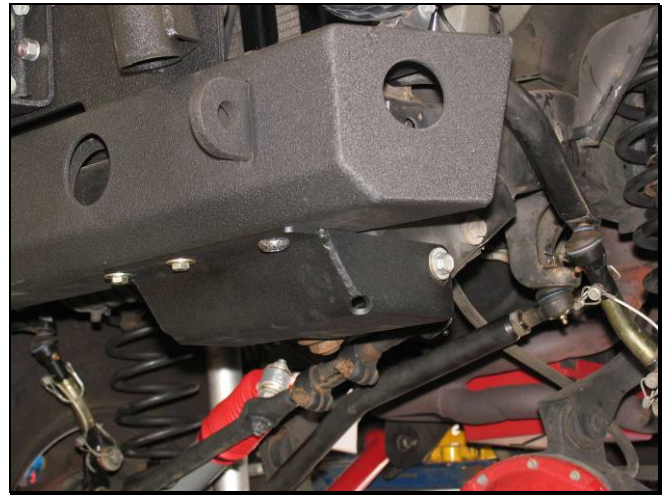

Figure 2
- 4)  Using the 3/8" hardware provided, affix the skid plate to the bumper through the 2 inboard holes. The order of the hardware from the bottom up should be bolt, large washer, bumper, small washer and then nut. See Figure 2.